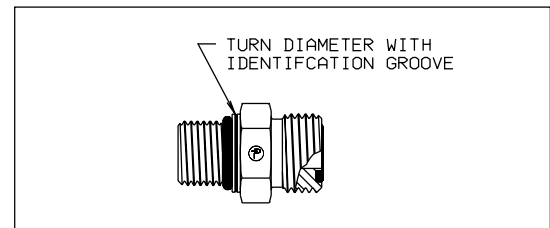

Fig. 12 — Metric Seal-Lok Straight Stud Fitting
- Straight connectors (straight studs) have a short length of turn diameter with a small groove machined in it's middle, as seen in Fig. 12.